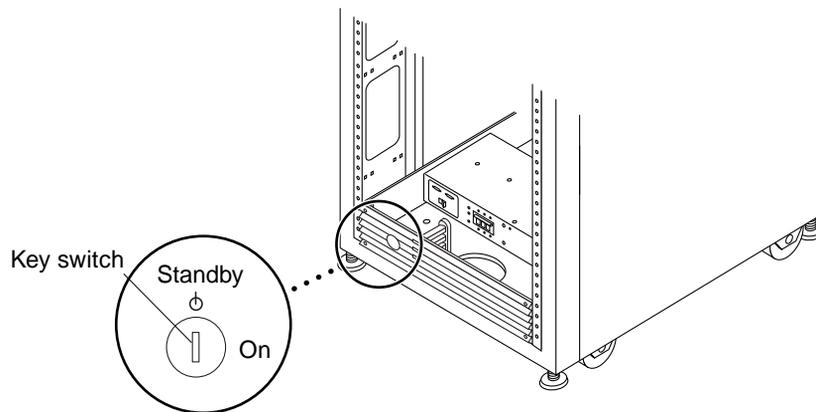

FIGURE 6-1 Location of Key Switch on Bottom Front Panel
1. Verify that the key switch located at the bottom front of the rack is in the Standby position (FIGURE 6-1).
2. Turn the key switch located at the front of the rack to the Standby position (FIGURE 6-1 on page 6-3).